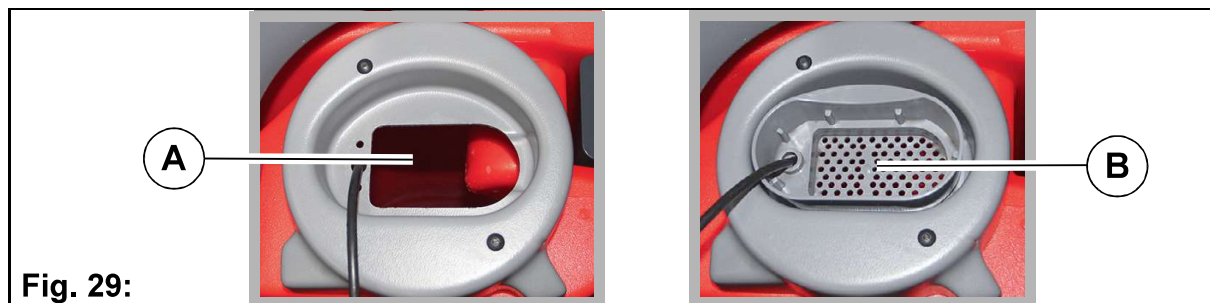

Fig. 29:
2. Remove insert in grey cover **Fig. 29-A**.
4. Add detergent according to the manufacturer's regulations via the sieve insert **Fig. 29-B**.